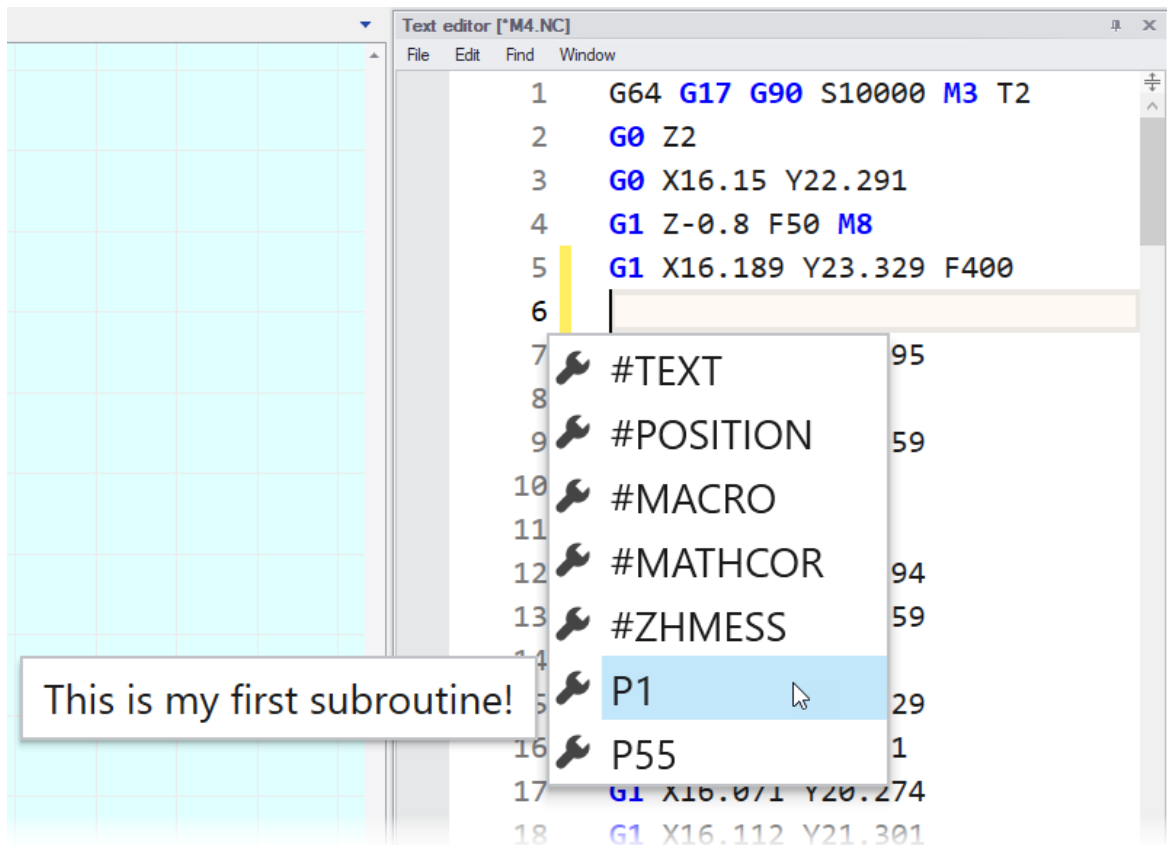

Figure 1: Autocomplete was triggered in line 8 using **CTRL + Space**, and subroutine P1 (*this is my first subroutine!*) was selected.
- In the text editor, DIN66025 files can be extended with additional commands using **autocomplete**. Press **CTRL + Space** to open the autocomplete menu (see Figure 1).